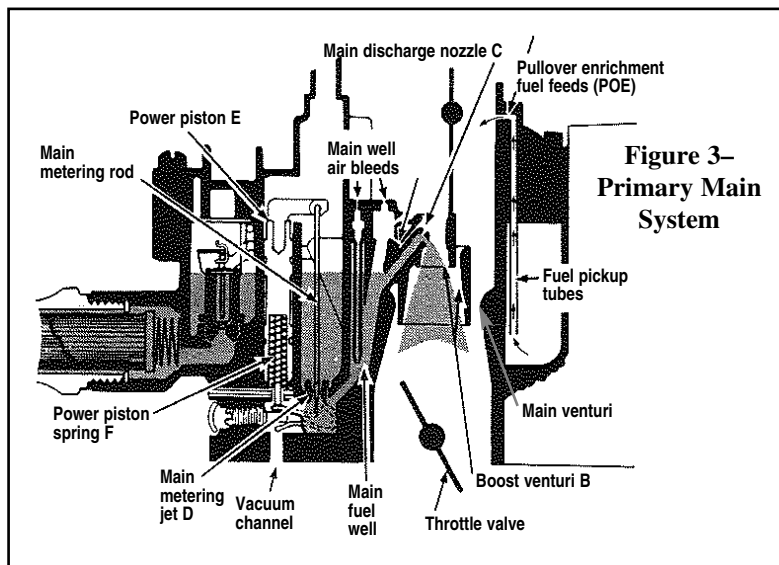

Figure 3-
Fuel is drawn through the Main System (Fig.3) by the pressure drop that occurs when the incoming air flow must increase in velocity in order to pass the reduced throat area at the Main Venturi (A) and the Boost Venturi (B). This pressure drop (or suction) is communicated to the system by the Main Discharge Nozzle, a brass tube that opens into the inside of the Boost Venturi (C).
At higher engine loads, such as in heavy part throttle acceleration, there is a need for a richer mixture. This enrichment is provided by the Metering Rod and Step-Up function (Fig. 3) A drilled passage communicates manifold vacuum to the underside of the Step-Up or Power Piston (E). This vacuum tries to hold the piston toward the bottom of its bore against the Adjustable Part Throttle (APT) stop, by working against the force of the Step-Up Spring (F).